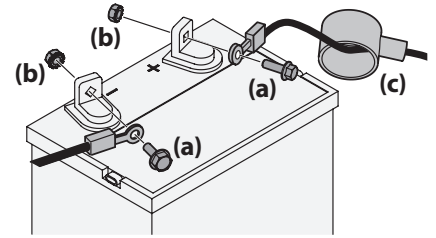

Figure 8
1. Remove the plastic cover, if present, from the positive battery terminal and attach the red cable to the positive battery terminal (+) with the bolt (a) and hex nut (b). See Figure 8.
2. Remove the plastic cover, if present, from the negative battery terminal and attach the black cable to the negative battery terminal (–) with the bolt (a) and hex nut (b). See Figure 8.
3. Position the red rubber boot (c) over the positive battery terminal to help protect it from corrosion. See Figure 8.